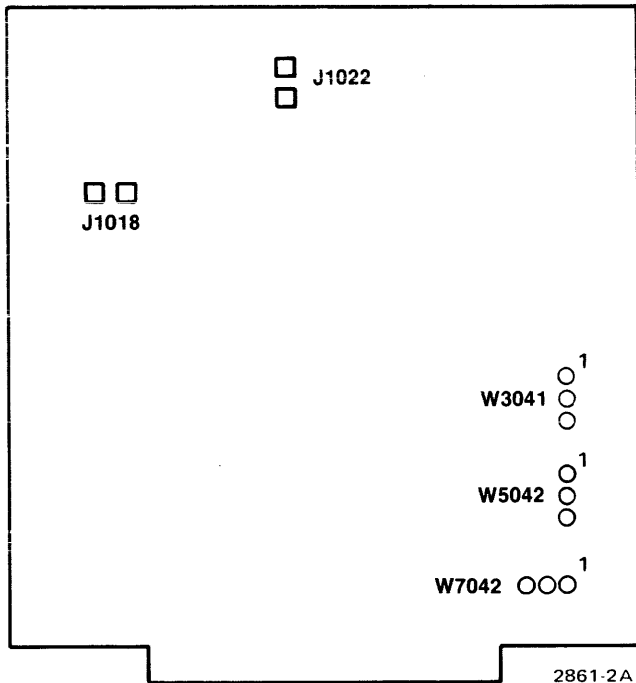
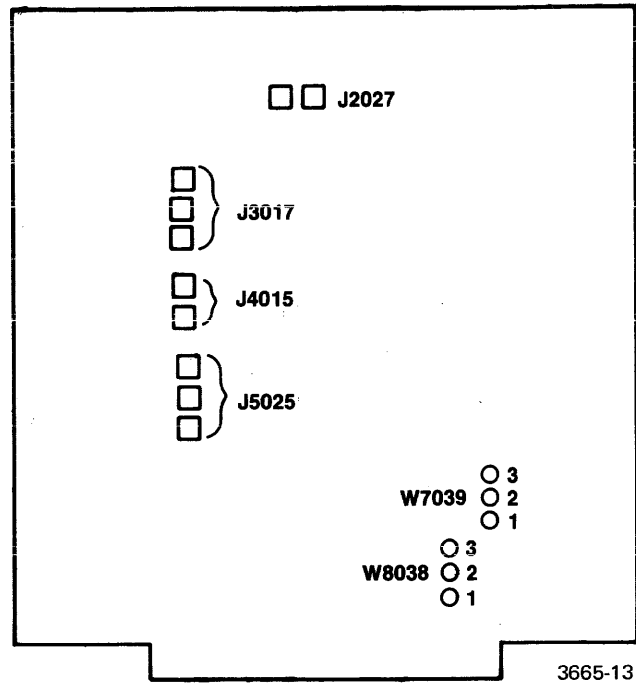

Fig. 4-1. Z80A Personality Card jumper and strap locations.
Fig. 4-2. Z80B Personality Card jumper and strap locations.
2. Verify that jumper J1018 (Z80A card only) or J4015 (Z80B card only) is installed on the Z80 Personality Card (see Fig. 4-1 and Fig. 4-2).